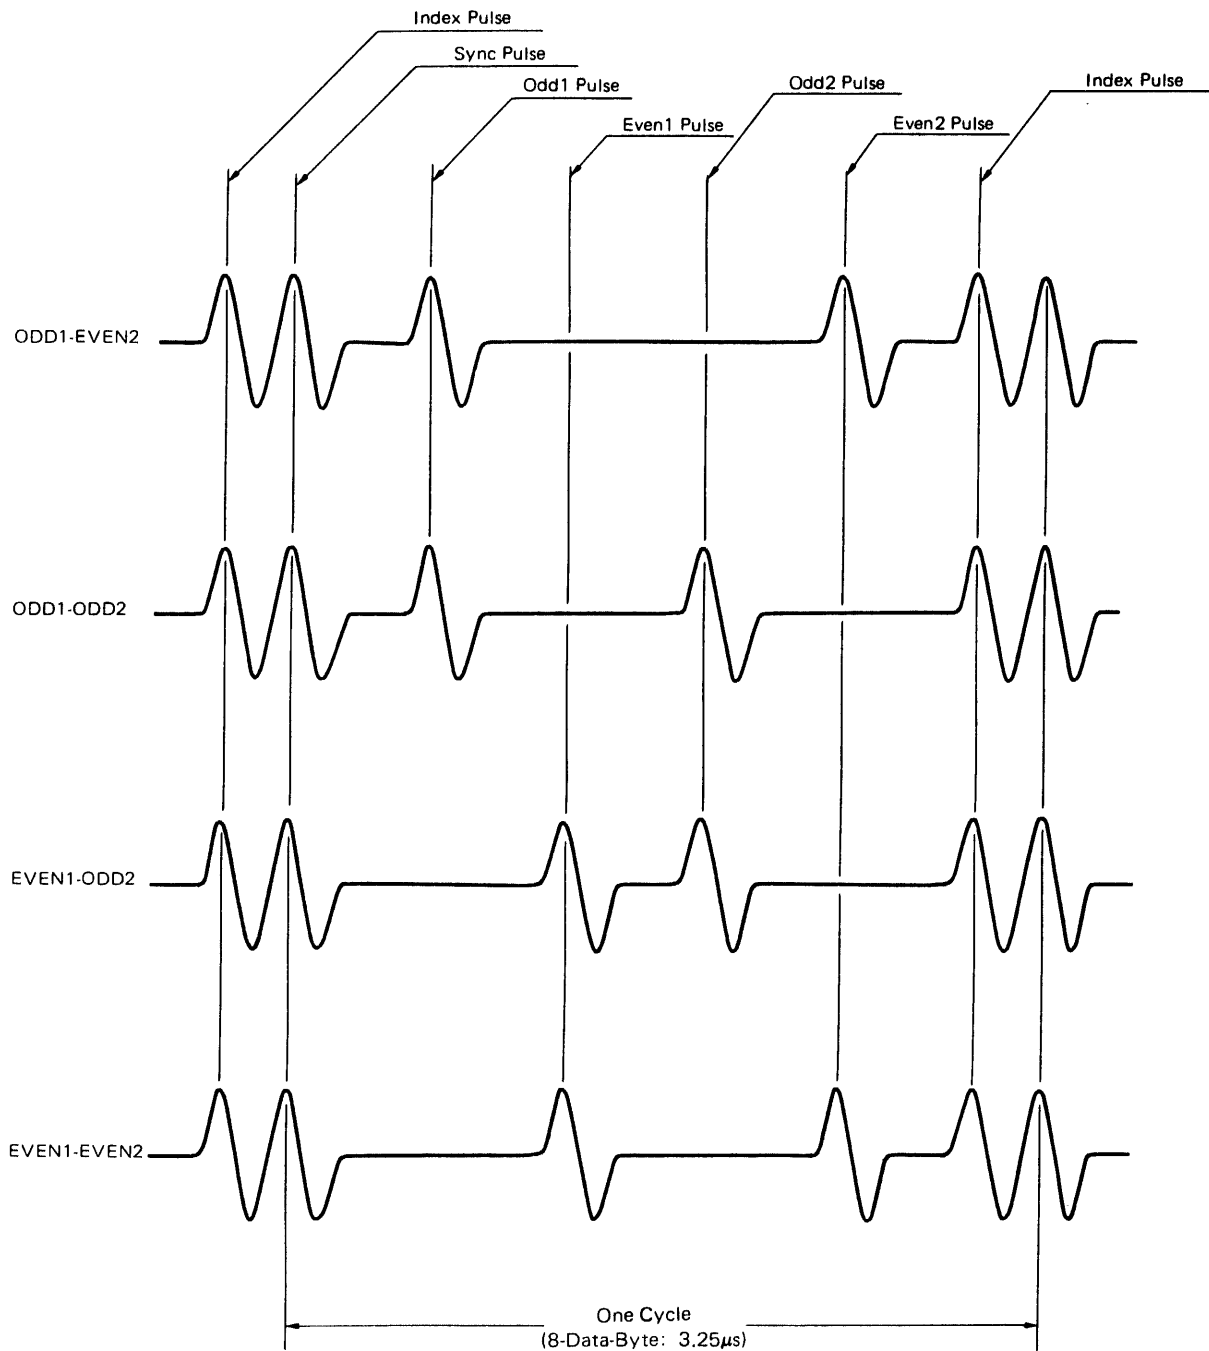
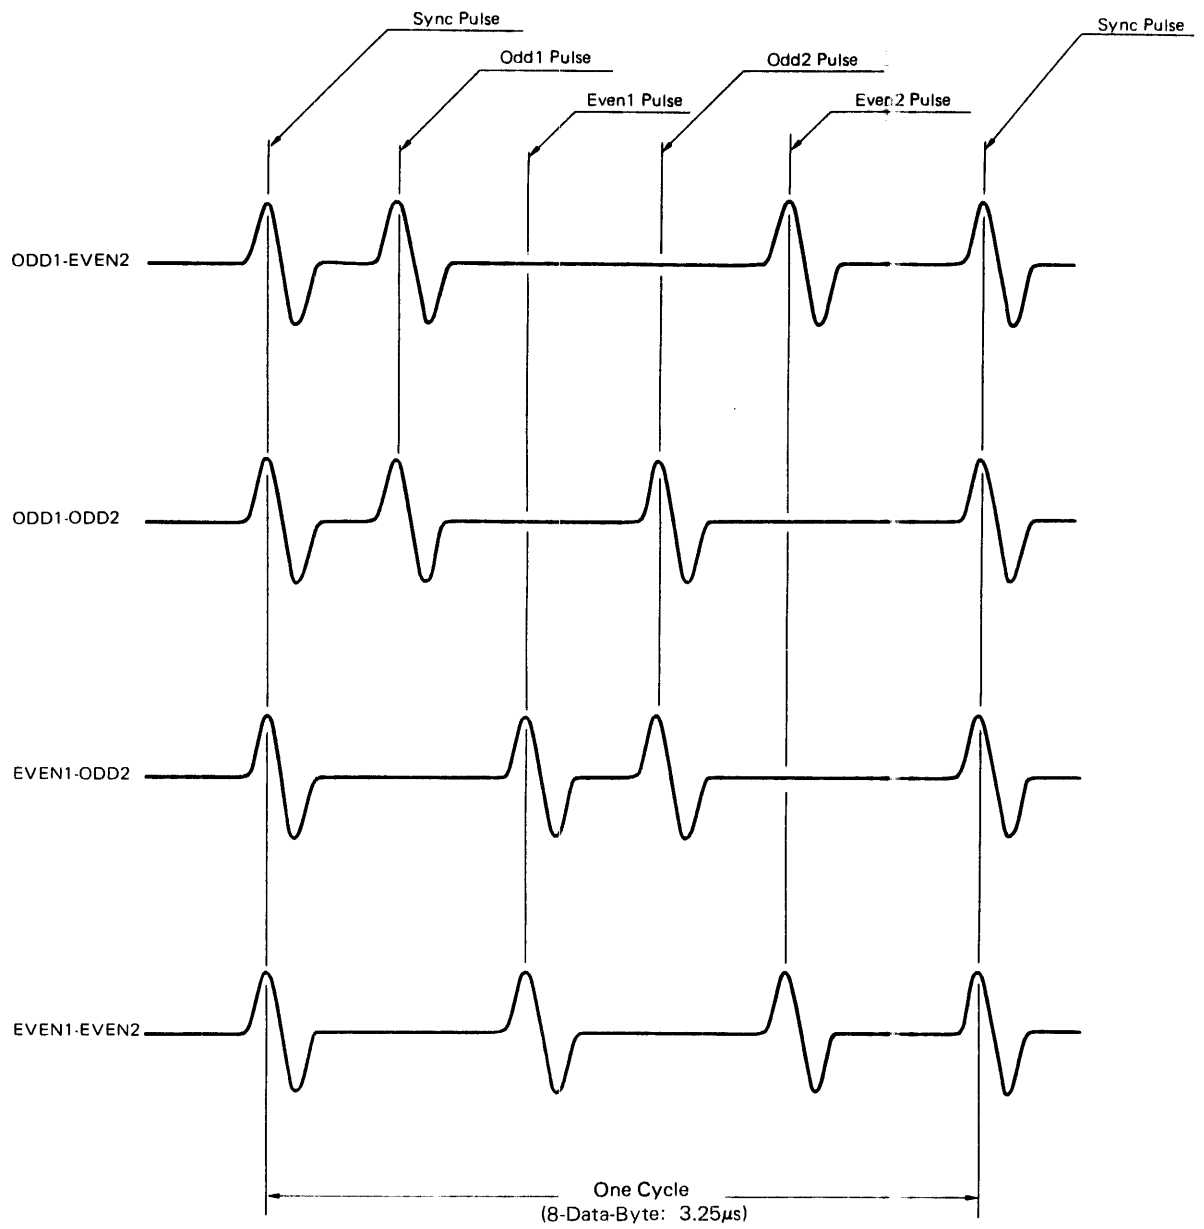

Figure 4-3-4 Normal Bit Pattern
Figure 4-3-5 Index Bit Pattern
Angular positioning is determined by a series of sync bits which are written on each track. Through a combination of Index Bit and Normal Bit; the "sync pattern" is developed. A series of unique sync patterns is written at the factory and used in the identification of specific disk regions. Refer to Figure 4-3-4 and Figure 4-3-5. Index mark, OGB, IGB1, and IGB2 patterns are described in paragraph 4.3.3 (3).